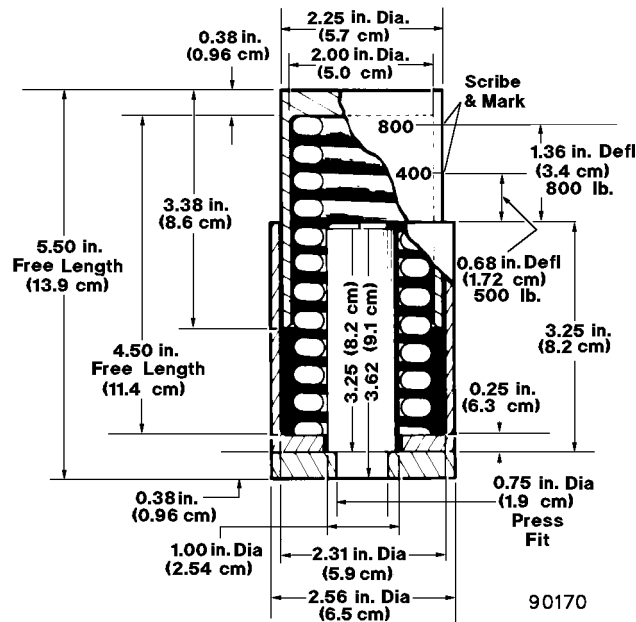
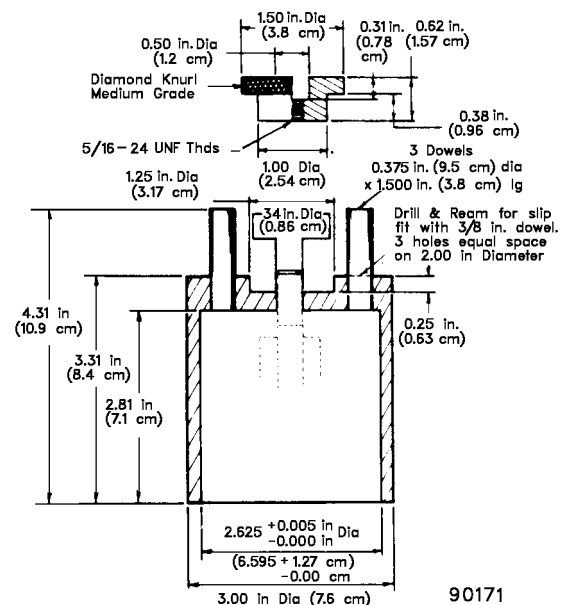

FIGURE 6-9. CALIBRATED SPRING POD
FIGURE 6-10. RETURN PIN RETRACTION
Use a 3447 kPa (500 psi) gauge, with a shutoff valve provided between the pump and the gauge to protect the gauge from damage when the press is used for higher pressure duty. Pump pressure must be applied slowly. Where a hydraulic press is not available, refer to the illustration in Figure 6-10 for a special tool, or similar, used in conjunction with a standard arbor press, to make the grip force measurements. To make the grip force measurements, use the special tools illustrated in Figures 6-9 and 6-10.
1. Normally, the piston assembly will be removed from the brake assembly with the return pin in an extended position. Set the calibrated spring pod (Figure 6-9) on top of the arbor press, place the piston assembly on top of the spring pod, and apply the arbor force slowly to return the pin to the retracted position. The pin will slip between 1779-3558 N (400-800 lb) scribed marks on the spring pod.
3. The return pin must be placed in an extended position when assembling into the brake caliper for a special pin retraction tool (Figure 6-10), or equivalent, is required for this. Insert the piston assembly in the tool and secure firmly with a knurled nut. Place the pin return tool/piston assembly combination on the arbor press table, drop in three dowel pins, as indicated, place the spring pod tool on top of the dowels, apply force slowly to the top of the spring pod and again observe if grip slippage occurs within the prescribed limits